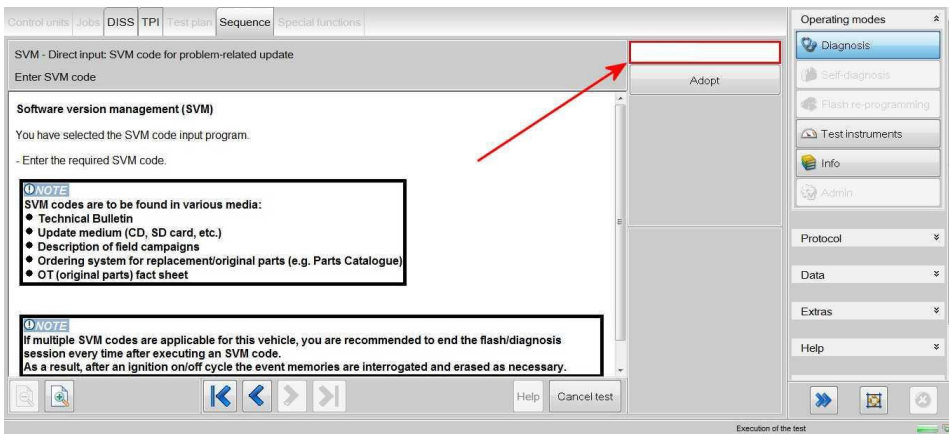

Figure 2
2. On the next screen enter the SVM code **4V0D6BA01** and select *Adopt* (Figure 2).
7. On the next screen enter the SVM code **4V0D7BA01** and select *Adopt* (Refer back to Figure 2)